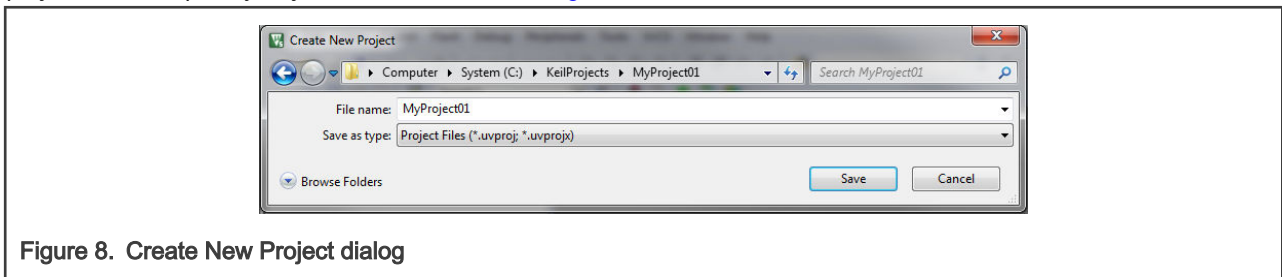

Figure 8. Create New Project dialog
- Navigate to the folder where you want to create the project, for example C:\KeilProjects\MyProject01. Type the name of the project, for example MyProject01. Click Save. See Figure 8.